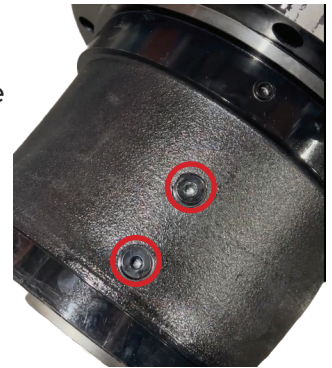

Figure 12
9. Lay the direct drive on its side with the oil ports facing up [Figure 12].